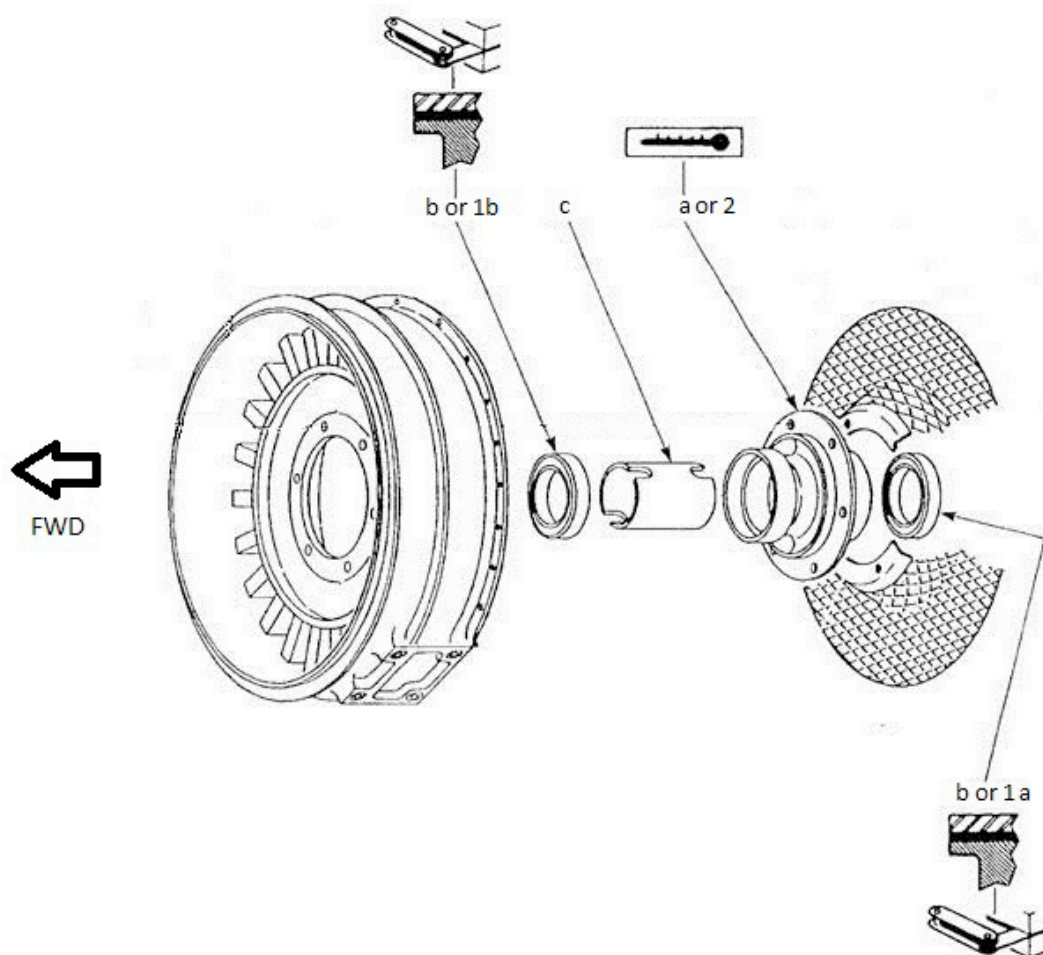

Figure 1
- . If the difference is greater than 0.75 ips (Figure 1)
- Replace former fan bearings (b) with new bearings (1) in accordance with the procedure described in Appendix 4.B. or return unit (a) equipped with bearings for replacement of the fan bearings,
As per Figure 1